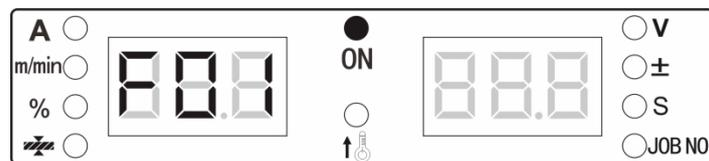

Fig. 3-24 Interface of restoring the factory settings
1. Enter the internal menu. The left digital tube will display **F01**. The digital tube display is as shown in Fig.3-24.